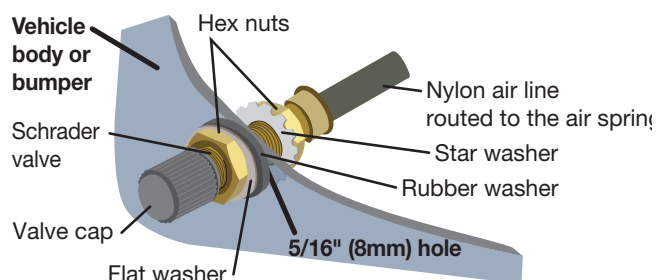

Fig. 29
4. Install the Schrader valve in the chosen location (Fig. 29).